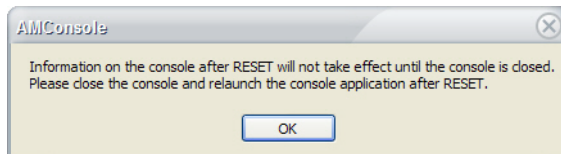

Figure 4-61: A message box
- 5) Click **Yes** to continue. Another message appears on the screen. See Figure 4-61.